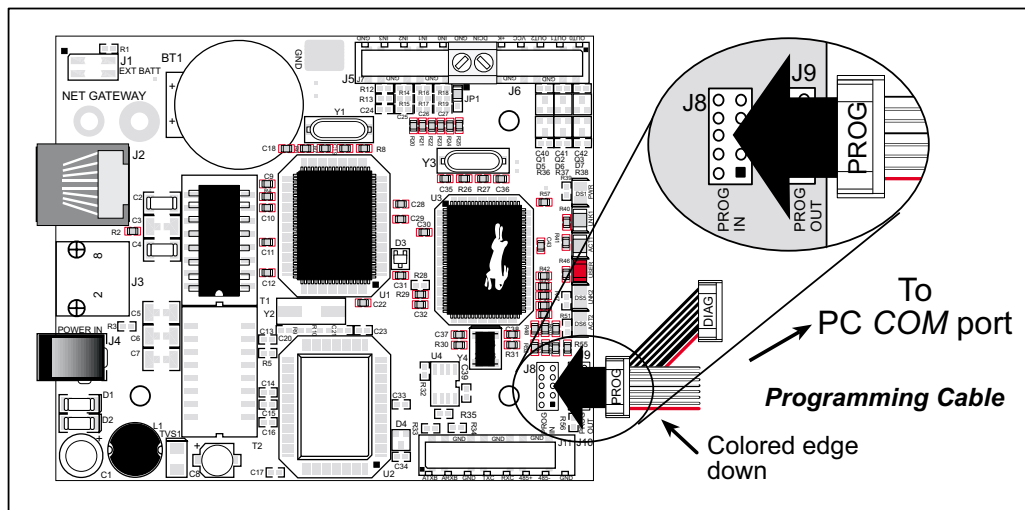

Figure 8. RabbitLink Connections for Downloading Firmware
1. Connect the RabbitLink board to your PC as shown in Figure 8 with the **PROG** connector on the programming cable connected to the **PROG IN** header of the RabbitLink board.